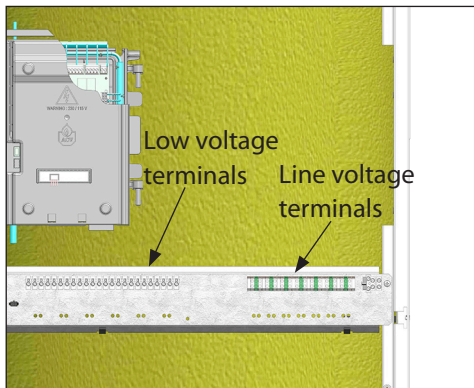

Fig. 20 - Terminal Strip Location
*The low voltage terminals are located at the left set of terminals 1 through 24. The line voltage terminals are located at the right set of terminals as shown in Fig. 20 below.*
1. Connect a dedicated 120 VAC/15A service to the line voltage terminals located internally on the right side of the center frame, as shown in Fig. 20 below.
2. The internal circulator is prewired to the CH circulator output. An additional circulator cannot be wired to these line voltage terminals located internally on the right side, as shown in Fig. 20 on the left.
3. Connect the DHW circulator wiring to the line voltage terminals located internally on the right side, as shown in Fig. 20 on the left. This circulator is typically used as a dedicated circulator to the first space heating zone.
4. Connect the P3 circulator wiring to the line voltage terminals located internally on the right side, as shown in Fig. 20 on the left. This circulator is typically used as the system loop circulator in a zone valve system.
5. Connect the P4 circulator wiring to the line voltage terminals located internally on the right side, as shown in Fig. 20 on the left. This circulator is typically used as a dedicated circulator to a second space heating zone.
1. Connect the external monitoring device to the line voltage terminals located internally on the right side, as shown in *Fig. 20 on page 35*.
1. Connect the room thermostat or dry contact zone valve end switch wires to low voltage terminals 1&2 or 3&4 located on the left side as shown in *Fig. 20 on page 35*.
3. Connect the external limit wires to the Manual Reset Limit or Auto Reset Limit low voltage terminals 9&10 or 11&12 located on the left side as shown in *Fig. 20 on page 35*.
1. Connect the system temperature sensor wires to low voltage terminals 15&16 located on the left side as shown in *Fig. 20 on page 35*.